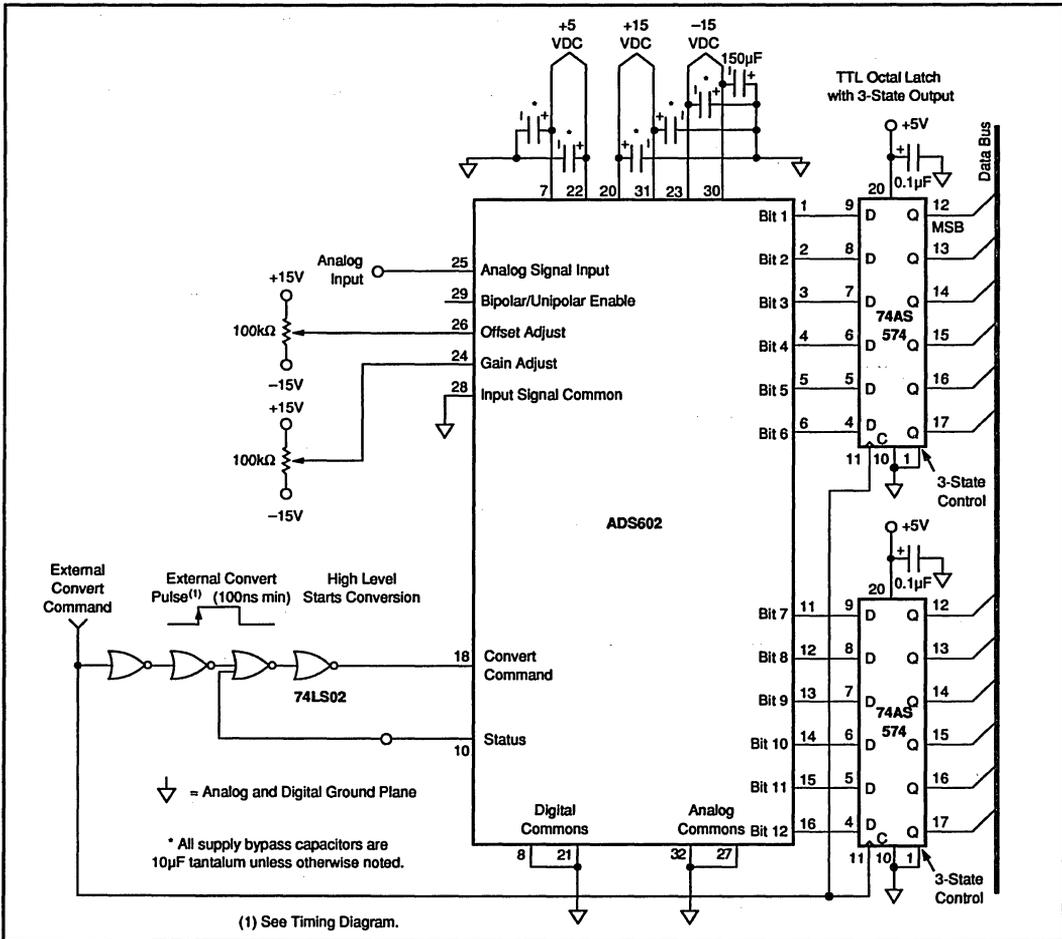

FIGURE 2. ADS602 Application Circuit.
The basic connection for the ADS602 is shown in Figure 2. It is shown connected for $\pm 5V$ bipolar operation. For unipolar operation, pin 29 should be grounded.
The +15V and +5V power supply pins should be bypassed with a 10µF tantalum capacitor as shown in Figure 2. Pin 30 requires bypassing with a 150µF tantalum capacitor. These capacitors should be located close to the ADS602 supply pins. Ceramic 0.01µF bypass capacitors have been provided internally for more effective bypassing and need not be added externally.
Gain and offset errors may be trimmed to zero using external trim potentiometers as shown in Figure 2. Multiturn potentiometers with 100ppm/°C temperature coefficient are recommended for minimum drift. If the gain adjust or offset adjust pins are not used, they must be grounded to meet the specified accuracy.
2. The rising edge of the convert command pulse initiates a conversion. This convert command should remain high until the Status falls (i.e., the internal ADC is finished converting). A simple circuit that provides the correct convert command (pin 18) pulse length, is shown in Figure 2.
4. The data from conversion "N" can be latched directly by the convert command pulse "N + 1". This approach is illustrated in Figure 2. The falling edge of Status may be used to latch the data; however, Status must be delayed by t_{SD} (see Figure 3) plus the external latch (74AS574) setup time.